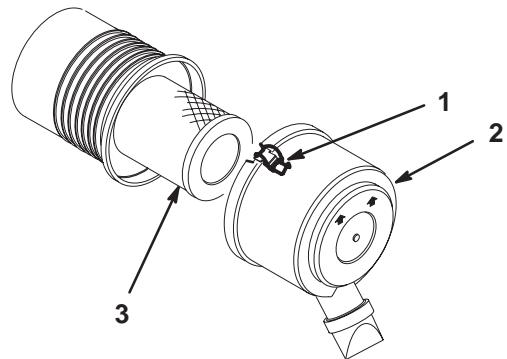

Figure 19
- Release the latches securing the air cleaner cover to the air cleaner body (Fig. 19). Separate the cover from the body. Clean the inside of the air cleaner cover.